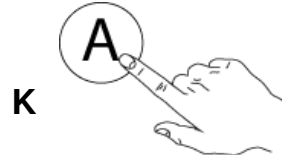

Fig.18
- 1- Press button “K” to select automatic washing cycle. (Fig.18)